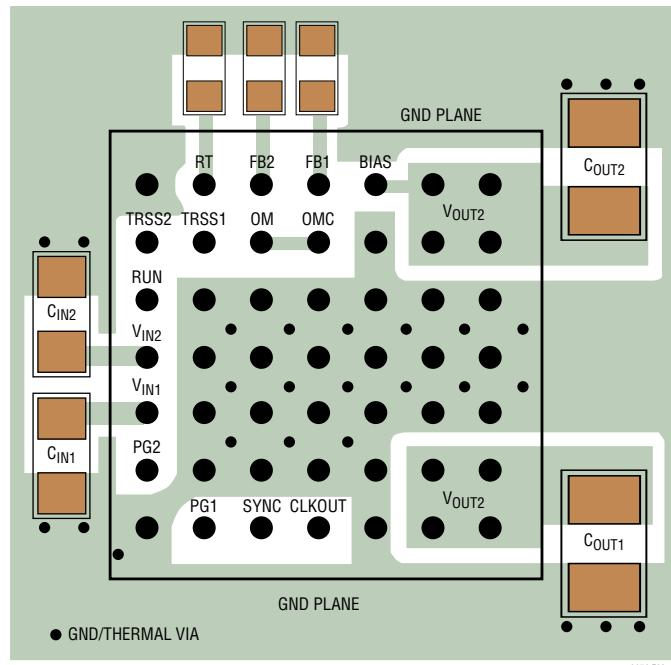

Figure 2. Layout Showing Suggested External Components, GND Plane and Thermal Vias
Most of the headaches associated with PCB layout have been alleviated or even eliminated by the high level of integration of the LTM8078. The LTM8078 is nevertheless a switching power supply, and care must be taken to minimize EMI and ensure proper operation. Even with the high level of integration, you may fail to achieve specified operation with a haphazard or poor layout. See Figure 2 for a suggested layout. Ensure that the grounding and heat sinking are acceptable.
6. Use vias to connect the GND copper area to the board's internal ground planes. Liberally distribute these GND vias to provide both a good ground connection and thermal path to the internal planes of the printed circuit board. Pay attention to the location and density of the thermal vias in Figure 2. The LTM8078 can benefit from the heat sinking afforded by vias that connect to internal GND planes at these locations, due to their proximity to internal power handling components. The optimum number of thermal vias depends upon the printed circuit board design. For example, a board might use very small via holes. It should employ more thermal vias than a board that uses larger holes.